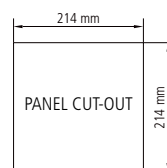

FIG. 4a
- Make an opening in the panel with the dimensions indicated (Fig. 4a or Fig. 4b).